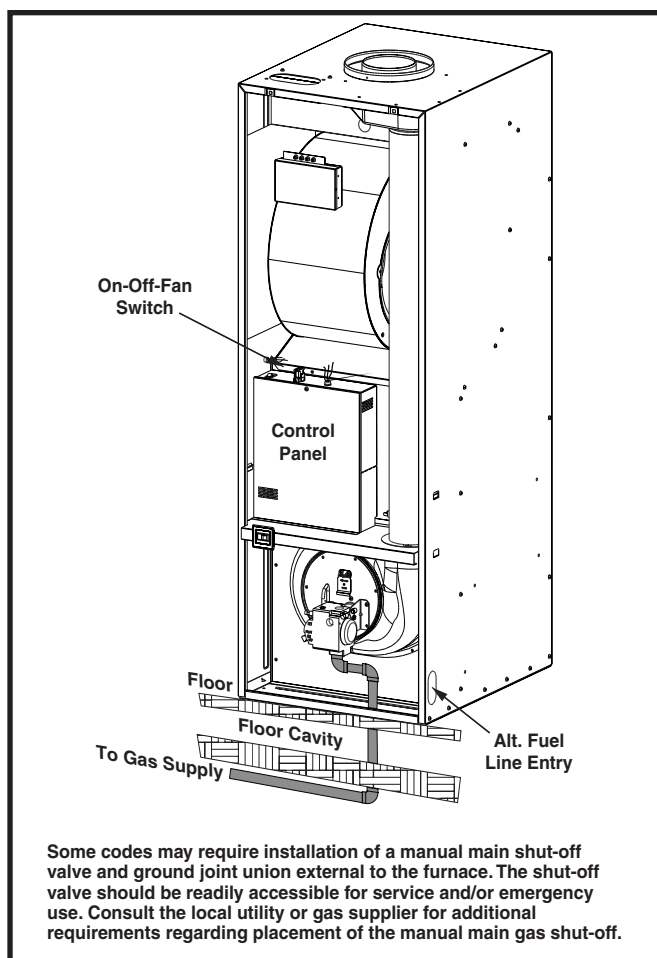
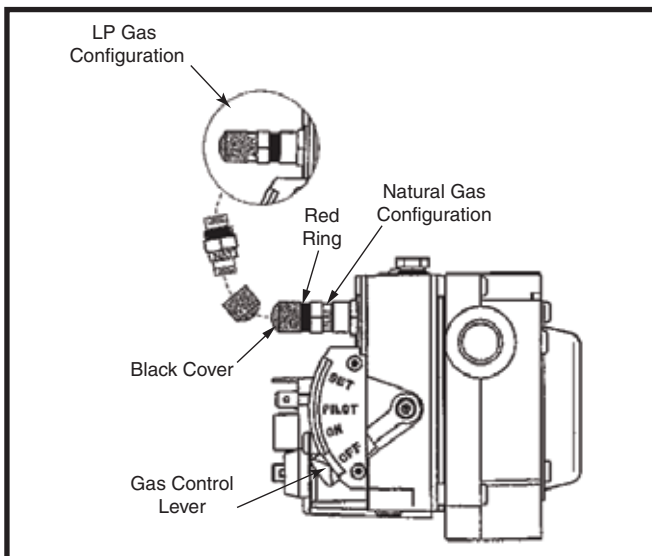

Figure 26. Typical Gas Piping
Figure 27. Robertshaw Gas Valve
This furnace may be installed with left, right, or bottom gas entry. When connecting the gas supply, provide clearance between the gas supply line and the entry hole in the furnace casing to avoid unwanted noise and/or damage to the furnace. Typical gas service hookup for this furnace is shown in Figure 26 \(page 16\).
- Some local regulations require the installation of a manual main shut-off valve and ground joint union external to the furnace. See Figure 26 \(page 16\). The shut-off valve should be readily accessible for service and/or emergency use. Consult the local utility or gas supplier for additional requirements regarding placement of the manual main gas shut-off.
- Fuel line installations other than typical installations shown in Figure 26 \(page 16\) & Figure 27 \(page 17\) must comply with the fuel piping provisions stated in the Federal Manufactured Home Standard (H.U.D. TITLE 24, PART 3280) and the National Fuel Gas Code (ANSI-Z223.1/NFPA-54).
This furnace can be converted from factory-equipped natural gas to liquid propane gas. Conversion of this valve requires replacement of the burner orifice and flipping the regulator cap to the side marked LP. The orifice required for conversion is supplied with the furnace. See Figure 27.
- Remove three (3) bolts from U-shaped manifold plate and orifice assembly (M1B Models).
- a. Unscrew the pressure regulator cap and check for the letters NAT or LP. See Figure 27 \(page 17\).
6. Replace the cap so that the letters facing up represent the type of gas being used for the furnace. See Figure 27 \(page 17\).
1. Remove the inlet pressure plug from the INLET side of the gas valve with a 3/16 Allen wrench. See Figure 27 \(page 17\).
1. Remove the manifold pressure plug from the outlet side of the gas valve with a 3/16 Allen wrench. See Figure 27 \(page 17\).